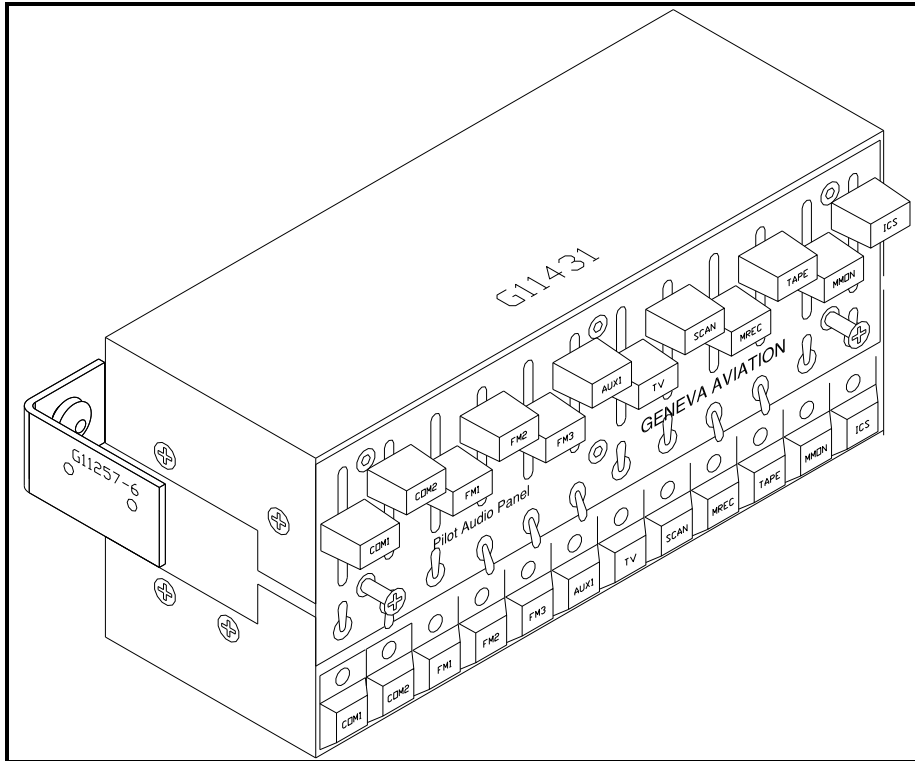
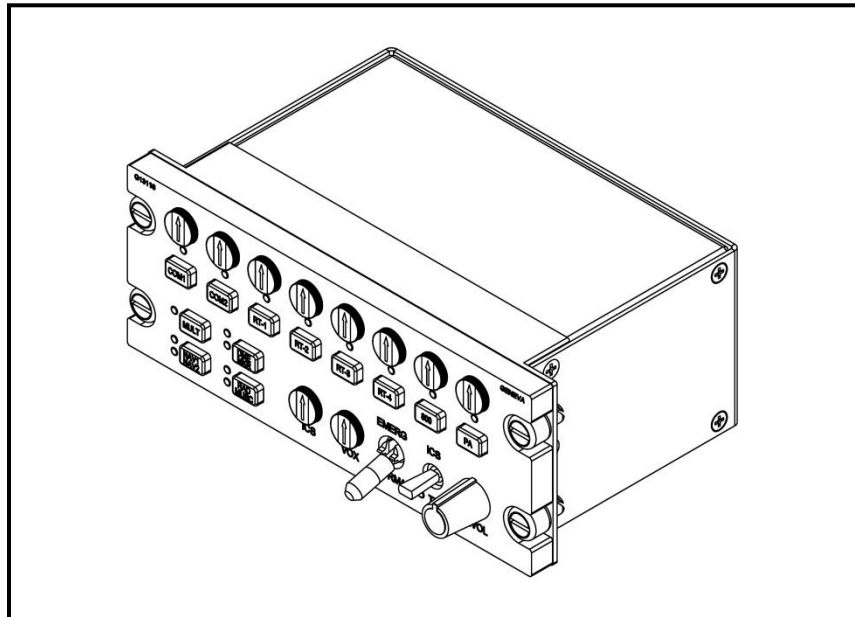

Figure 7: G11431 Control Panel
Figure 14: G13116/G13116NS Control Panel
- a. An Audio Router. The Audio Router comes in 5 different configurations. There are 2 analog Audio Routers P/N G11426 (6 slot) and P/N G12320 (8 slot) which contain removable printed circuit boards (control boards) that can be interchanged for diagnostic and spares purposes. And there are 3 Digital Router Systems to choose from, the first is P139-HD (D) which uses Router G13000 in a "Dual-board" configuration. The second is P139-HD (S) which uses Router G13000 in a "Single-board" configuration. The third is P139-HD (T) which uses Router G13160 and is a "3-Board" router.
- b. A minimum of 2 Audio Control Panels for the pilot and co-pilot. A typical installation will include 3 or more Audio Control panels for the pilot, co-pilot, crew members, and/or passengers. The Control Panels come in the following configurations: P/Ns G11431, G11460, G11462, G11470, G11480, G11490, G13115/G13115NS, and G13116/G13116NS as shown in Figure 7 through Figure 14. The Audio Control Panels can be used interchangeably, depending on the